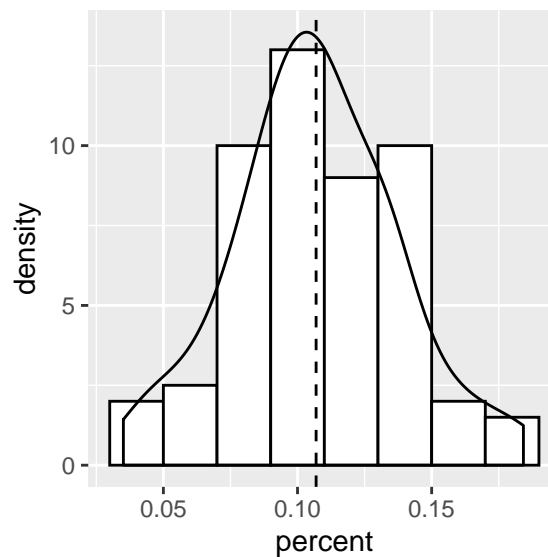

Figure 1: Percentage of Damaged Printers per Trial (100 Visits)
4. Simulate data to match part (3), assuming that at each visit, the number of damaged printers you count are distributed  $\text{Bin}(n, 0.10)$ . Make a histogram of the percentage of damaged printers you counted at each visit.
- (a) Simulating appropriate data, we can create a histogram of our damaged printer percentage using our previously calculated  $n$  and with our established definition of a confidence interval. Please reference Figure 1, and note that for this plot and all subsequent plots the dashed line indicates the sample mean.